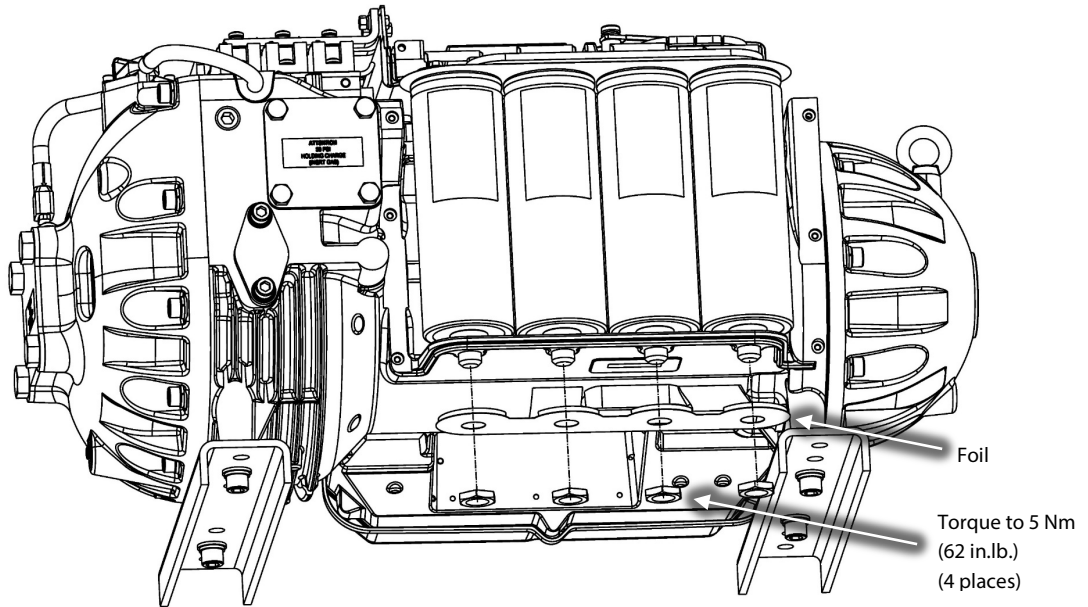

Figure 11 – Capacitor Nut Removal
20. Remove the nylon nuts and foil at the base of the DC capacitor assembly, under the main compressor housing. Refer to Figure 11 (Capacitor Nut Removal).